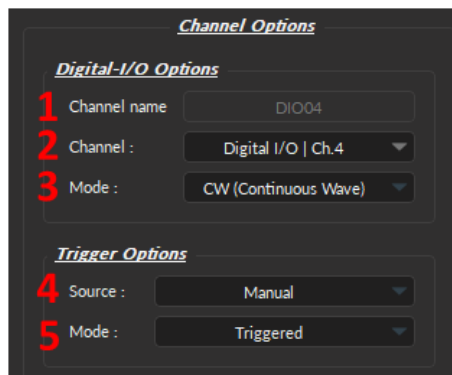

Figure 6.14: *Channel(s) Configuration, Digital I/O Channel Options*
1. The **Channel Name** (Fig. 6.14, 1) allows the user to specify a label for each channel.
2. The **Channel** (Fig. 6.14, 2) identifies the channels available to create a Digital I/O. The channel can be changed by selecting a new one from the drop-down list. Each numbered channel on the physical console corresponds to the same number of digital channels within the software.
3. The **Mode** (Fig. 6.14, 3) identifies the type of signal sent (for output channels) or the way the signal is measured (for input channels). Three modes are available:
1. The **Source** trigger option (Fig. 6.14, 4) allows the choice of a **Manual Trigger** (activated by a user) or an **Input** trigger, coming from a **Digital I/O** channel set in input mode.
2. The **Mode** (Fig. 6.14, 5) defines how the trigger activates a sequence. This includes input sequences, which can be triggered/gated by an outside source.
The parameters contained in the **Sequence Options** depend on the **Channel Mode** (selected in **Channel Options**, Fig. 6.14), as following: